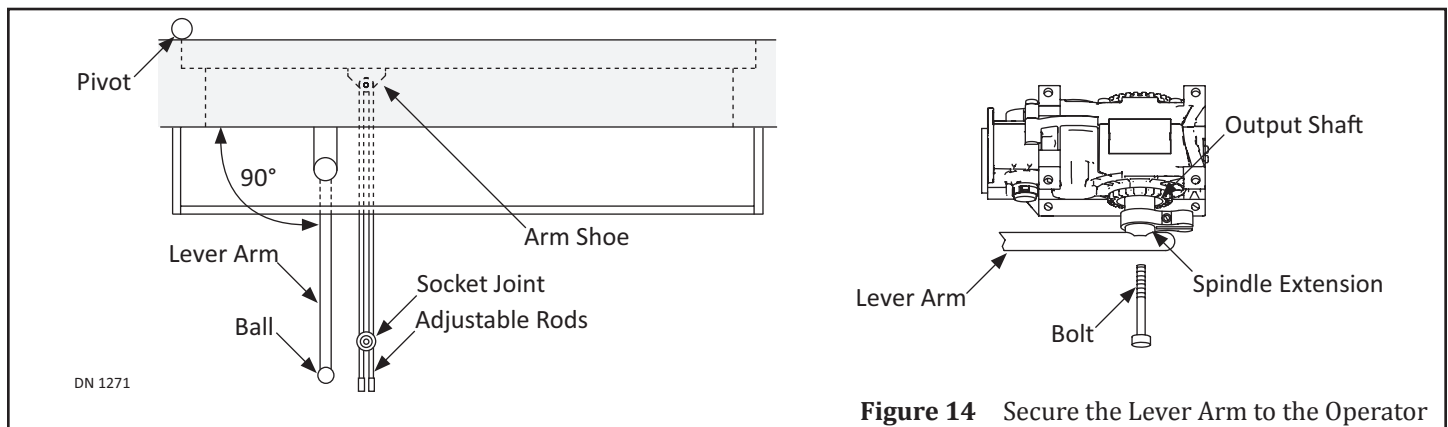

Figure 14 Secure the Lever Arm to the Operator
1. Seal all Header Seams with Sealing Compound and Transparent Adhesive Tape according to Figure 14.